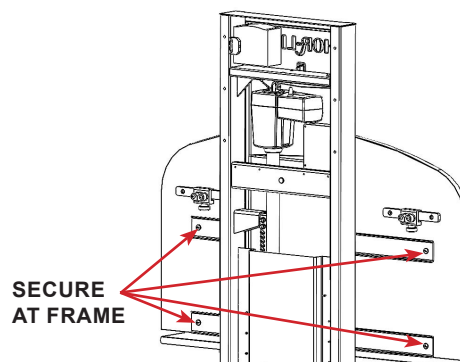

FIGURE 2.8 - Secure Back Panel
STEP 2: Secure the back panel to the frame using a 1/4"-20x1/2" long phillip head screw and 1/4" flat washer. (4 locations) See FIGURE 2.8